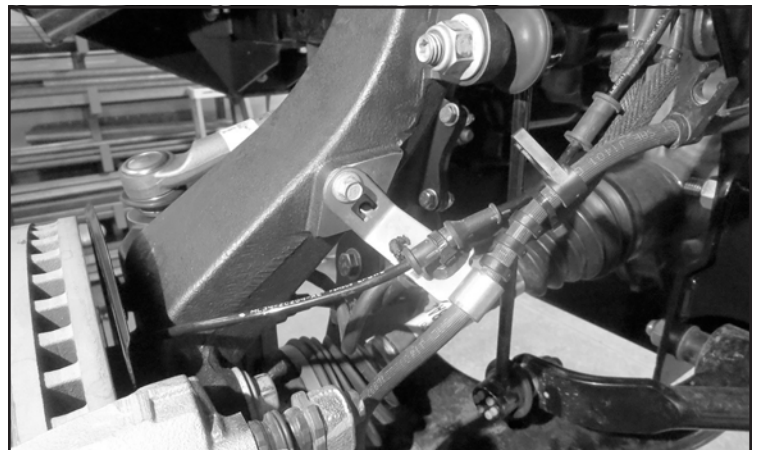

FIGURE 65 - STEP 53
53. Install the factory brake hose bracket to the new spindle using the factory bolt. **NOTE: The bracket may need to be bent slightly for proper fitment. SEE FIGURE 65**